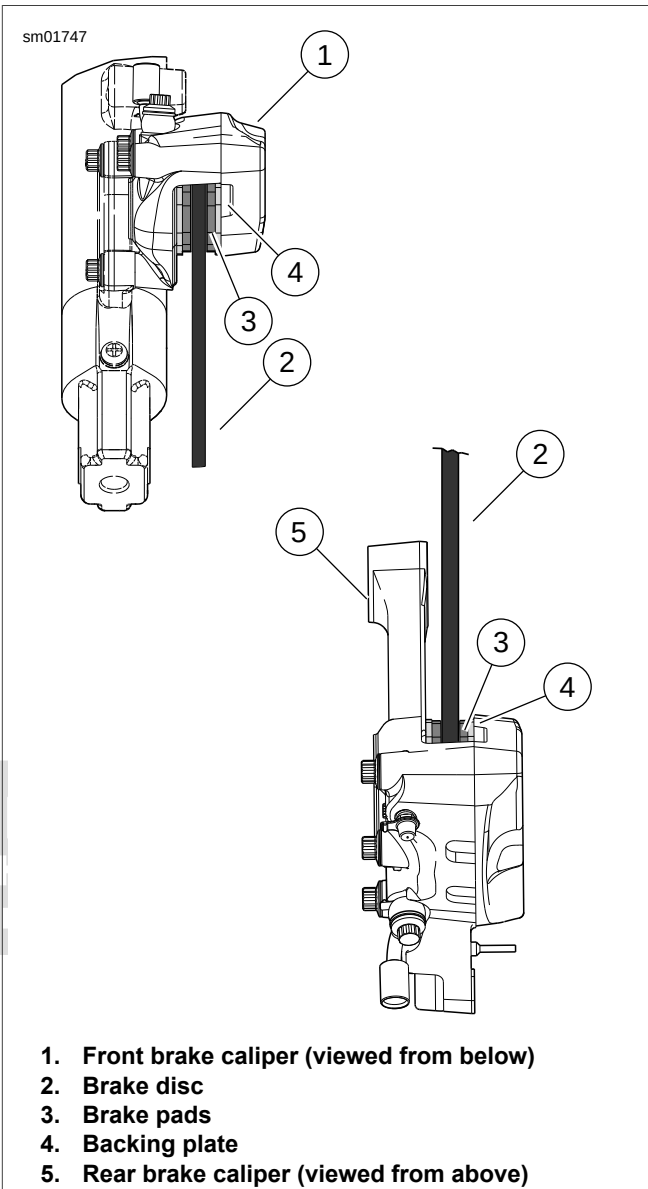

Figure 1-29. Brake Pad Areas of Inspection (typical)
See Figure 1-29. The minimum brake disc (2) thickness is stamped on the side of the disc. Replace disc if badly scored.